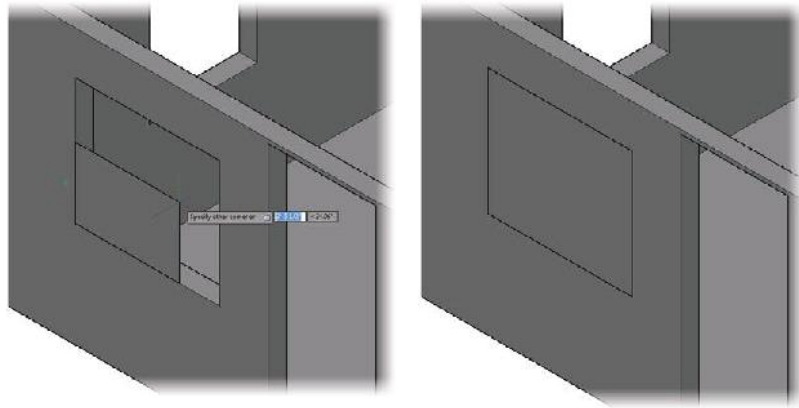

FIGURE 16.28: With Dynamic UCS turned on, the box's base is oriented parallel to the wall (left), and the box's base is completed (right).
The box starts to form with its orientation parallel to the outside wall, and the UCS icon temporarily changes its orientation (see the left image in Figure 16.28).
11. Click the opposite outside corner of the window for the base of the new box (see the right image in Figure 16.28).